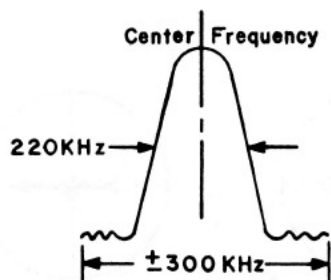

Figure 6
3. Tune the FM generator, modulated $\pm 300\text{KHz}$ at approximately 20uV output level, to the receiver frequency. Connect an RF detector probe to pin 5 of the AN217 (IC202) and center the FM IF response on the oscilloscope. The FM IF bandpass characteristics are now being displayed. Adjust the transformer core of the RF converter T101 for maximum gain and symmetry (Figure 6).